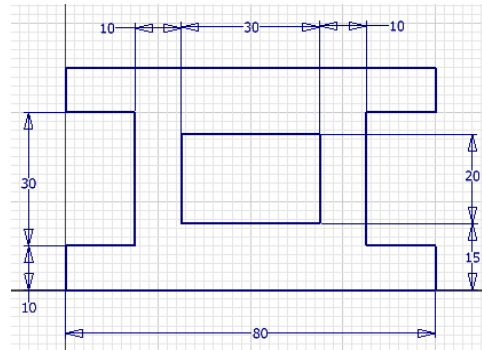

Figure 3-52 Fully constrained sketch for Tutorial 1
- d. Dimension the sketch by using the origin to fully constrain it, refer to Figure 3-52.
Figure 3-52 shows the fully constrained sketch for Tutorial 1.